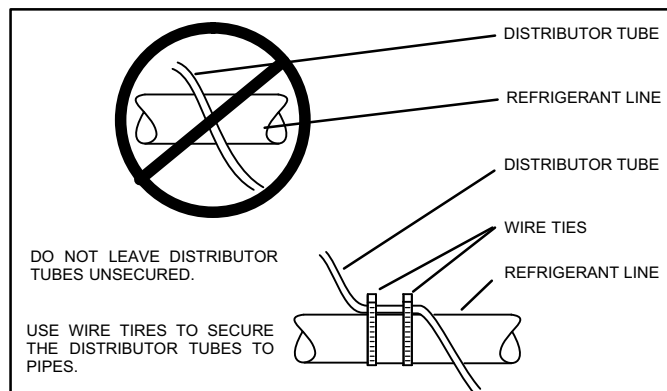

Figure 3. Secure Distributor Tubes to Pipes
1. Carefully pull the orifice housing forward through the patch plate opening in the plenum. **Do not twist, kink or damage the distributor tubes.** Use wire ties to secure tubes to prevent movement that could cause the refrigerant tubing to fail. Adjust the tubes if necessary as illustrated in figures 3 and 4.